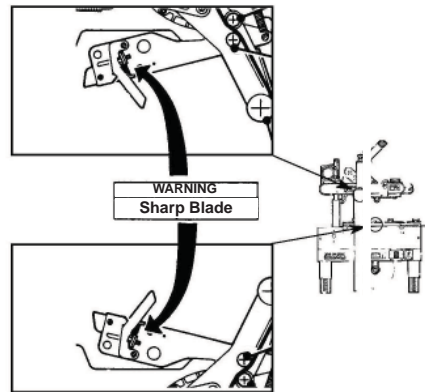

Figure 3-5
**IMPORTANT!** Tape cutting blade. Never remove the safety device which covers the blade on the top and bottom taping units. Blades are extremely sharp. Any error may cause serious injuries (**Figure 3-5**).